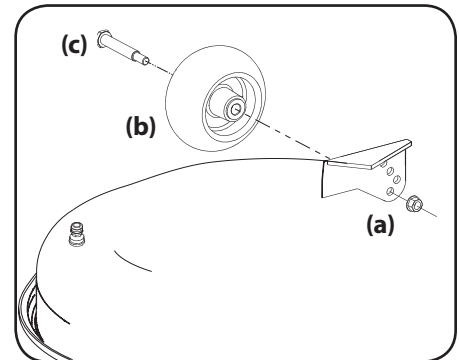

Figure 2-8
- a. Remove the lock nut (a) securing one of the front gauge wheel (b) shoulder screws (c) to the deck. Remove the gauge wheel (b) and shoulder screw (c). See Figure 2-8.